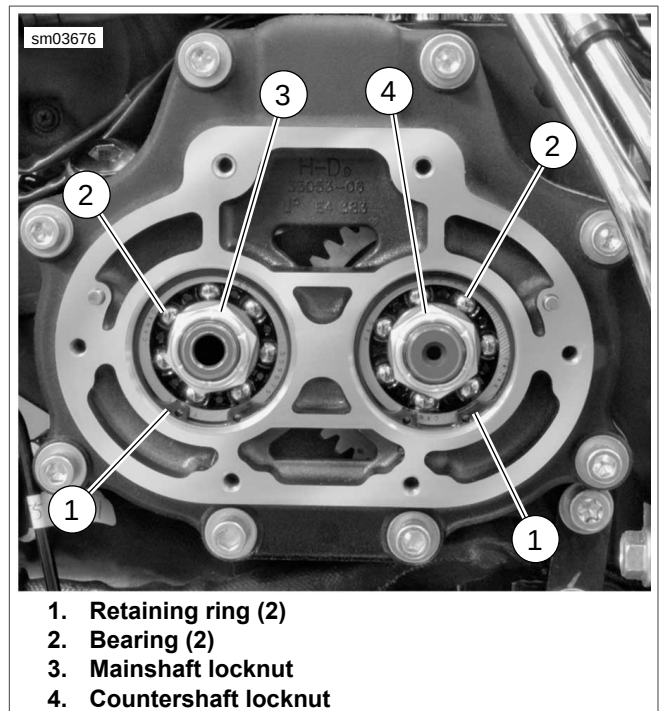

Figure 6-15. Bearing Housing Locknuts
- See Figure 6-15. Using dog rings, lock two gears in place. Temporarily place transmission assembly into transmission case.